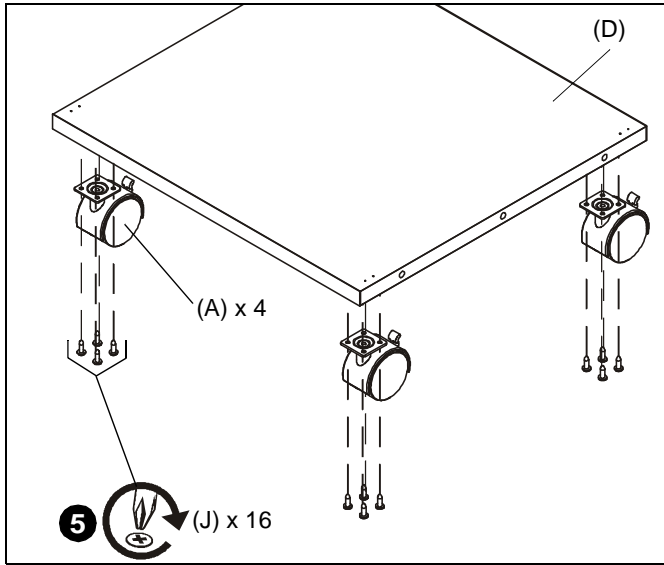

Figure 5
- Attach four casters (A) to bottom of rack base using four #10 x 5/8" wood screws (J) in each caster. (See Figure 5)